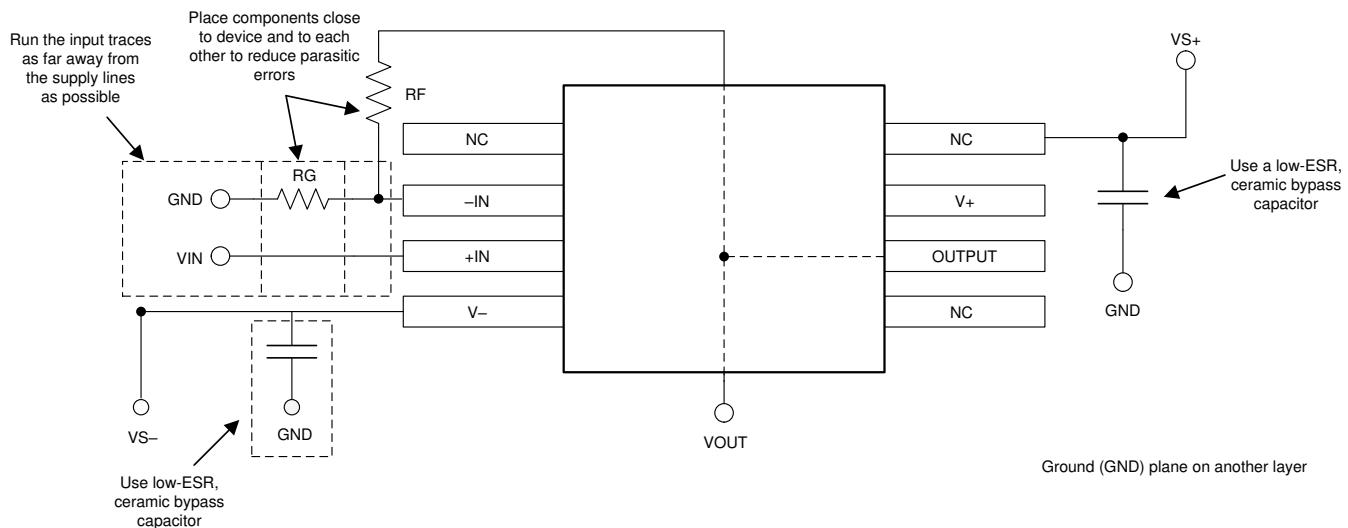

図 10-2. Operational Amplifier Board Layout for Noninverting Configuration
- Place the external components as close to the device as possible. As illustrated in 図 10-2, keeping RF and RG close to the inverting input minimizes parasitic capacitance.